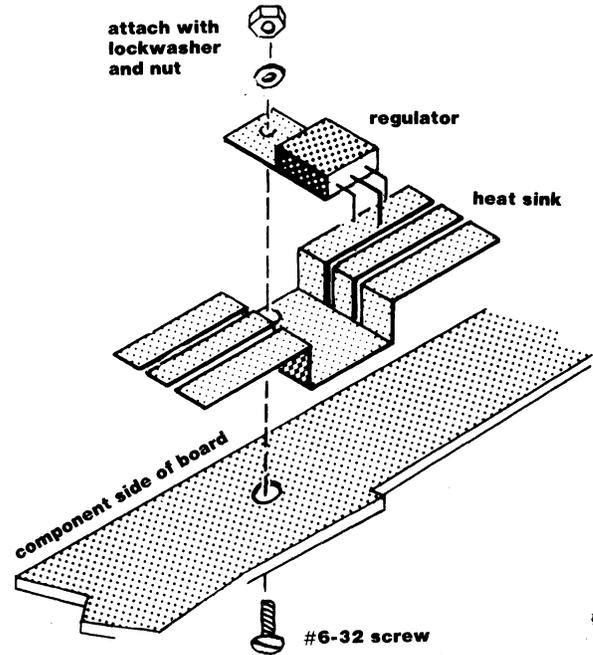

Figure 7.
2. Mount each regulator and the regulator heat sink in place, referring to figure 7. Observe that the heat sinks mount on top of the board and then the regulators mount on top of the heat sinks. If desired, a small dab of heat sink compound may be added between the regulator cases and the heat sinks to improve thermal transfer from regulator to sink.
Again, referring to figure 7, bend all regulator leads as shown, then bolt the heat sink and regulator assemblies into place using the nuts, bolts, and lock washers provided.
3. Before proceeding, check your work thus far by testing the board for shorts between supply lines and ground. Refer to figure 7. Use an ohm meter to test for a shorted condition at the test points indicated on the regulator. Perform this test on all regulators. If you find a short circuit at any of these points, carefully check over your board for the cause of the short. If all readings are satisfactory, proceed with assembly.
2. Mount and solder the regulator assemblies as described in section 2 of the previous page, referring to figure 7 observe that the heat sink mounts on the board and that the regulator mounts on top of the heat sink.